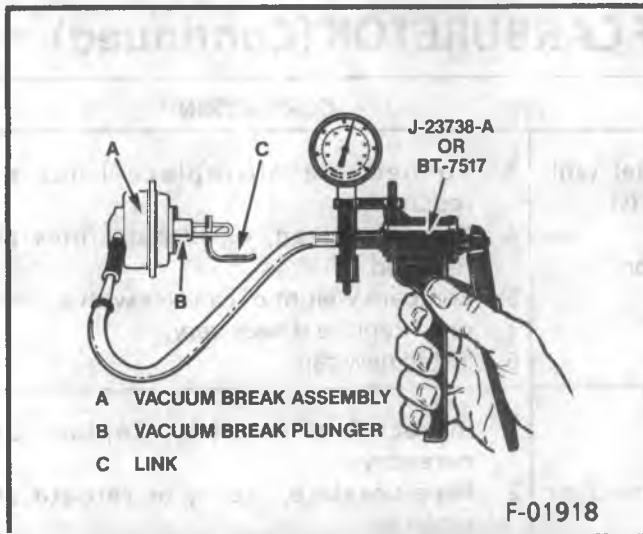

Figure 10 - Vacuum Break Functional Check
- Apply 51 kPa (15" Hg) vacuum to the vacuum break (Figure 10).